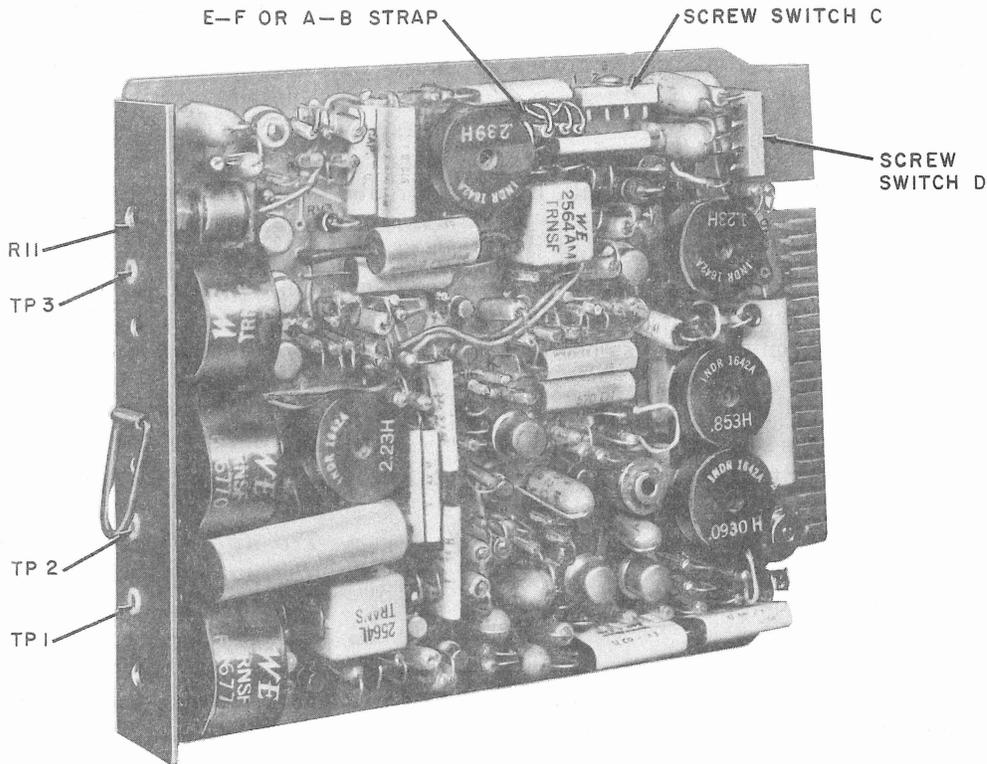

Fig. 3—Data Set 108A- or C-Type
DATA SETS 108A- AND 108C-TYPE (Fig. 3)
5.08 Connect terminal + and - of TTS-28 portable station test set to TP1 and TP2 of the data set (Fig. 3). Set FUNCTION switch of TTS-28 to DBM 900-ohm TERM 0 position. Connect power to DAS. Adjust potentiometer R11 on the data set for output level specified on service order or CLRC.